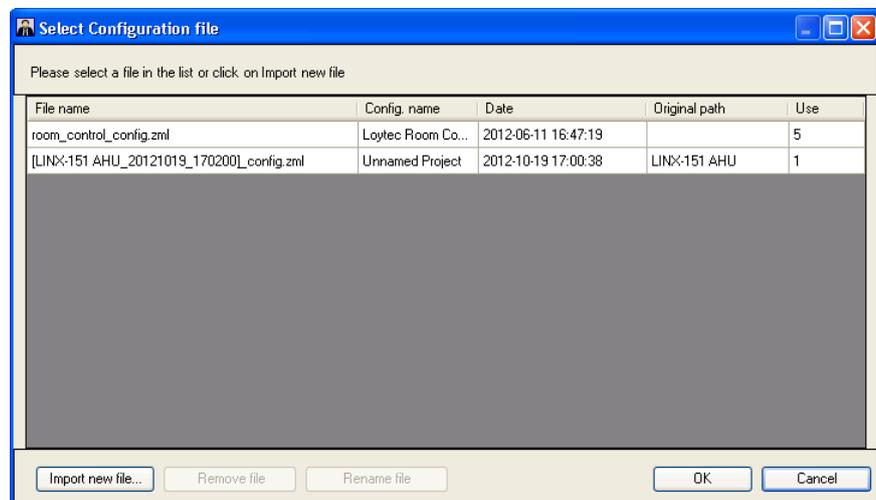

Figure 196: Select Configuration Dialog
3. The **Select configuration** dialog opens as shown in Figure 196. The dialog displays a list of compatible configuration files available in the LWEB-900 database. If the desired configuration file is already available in the list, select it and press **OK**.